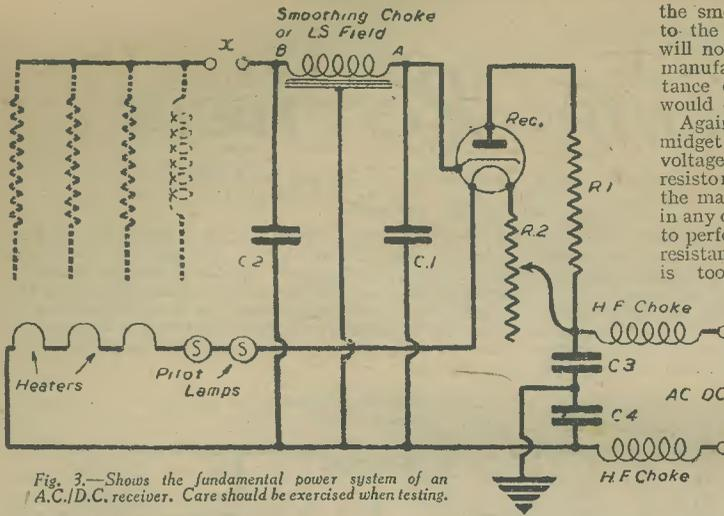

Fig. 3.—Shows the fundamental power system of an A.C./D.C. receiver. Care should be exercised when testing.
The power circuit of a typical A.C./D.C. receiver (Fig. 3) is usually similar, so far as the smoothing section is concerned, to the A.C. arrangements, therefore preceding remarks regarding testing rectifier apply also to Fig. 3. Also, if C1 or C2 develops a short-circuit, it invariably destroys the rectifying valve, so this should be checked. If, on the other hand, all is in order, it only remains to check the circuit from the anode of the rectifier through to the appropriate mains input lead. R1 is a current limiting resistor which is often included; a usual value being approximately 100 ohms.
D.C. receivers have similar smoothing arrangements to Fig. 3 and there is, of course, no rectifier to bother about. This fact, however, may be a worry in itself, because if at any time we are required to service a D.C. set on A.C. mains it will be necessary to provide rectification for the H.T. supply. So for this reason it is a good idea to keep handy a Westinghouse metal rectifier type H.T.10, which can be temporarily connected to the D.C. set. It should be wired between the smoothing choke and mains so that rectifier negative goes to mains and rectifier positive to choke.